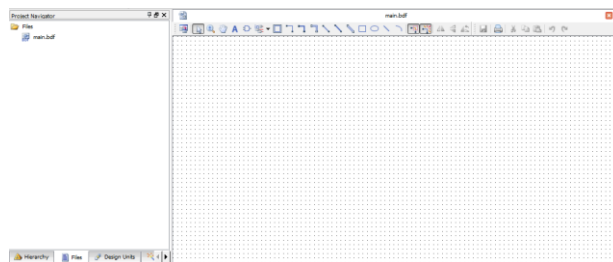

Figure 4.3.2: New schematic created
- o Your new schematic sheet is now displayed in the Quartus window (Figure 4.3.2).